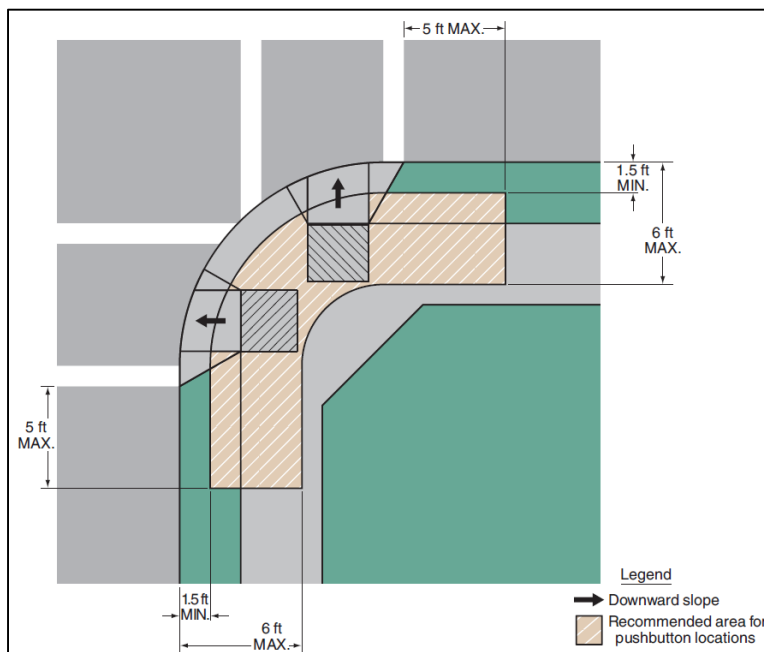

Figure 16 – Push Button Placement
- Distances from the outside edge of the crosswalk line farthest from the center of the intersection and the face of the push buttons do not exceed 5ft (see **Figure 16**). *MUTCD 4E.08*
- Push buttons are located between 1.5 ft. – 10.0 ft. from the face-of-curb, shoulder, or pavement (see **Figure 16**). *MUTCD 4E.08*